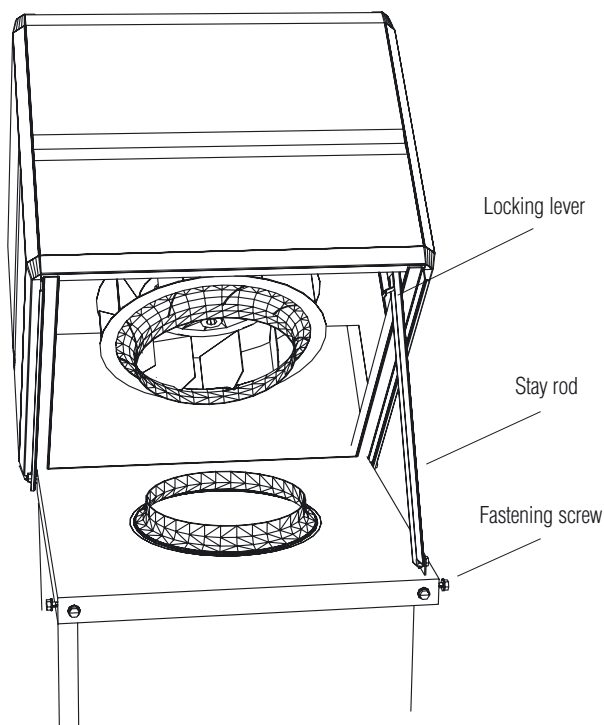

Fig. 5
3. Back off the arresting screws about 10 mm, so that the fan section can be raised on its hinges. The stay rod (1 or 2 stay rods depending on the size of ventilator) locks the fan section automatically in the fully open position as shown in Figure 5.
Figure 5) and lower the fan section back to its initial position. Re-tighten the arresting screws. The fan casing can also be cleaned from the top after opening the top grille.